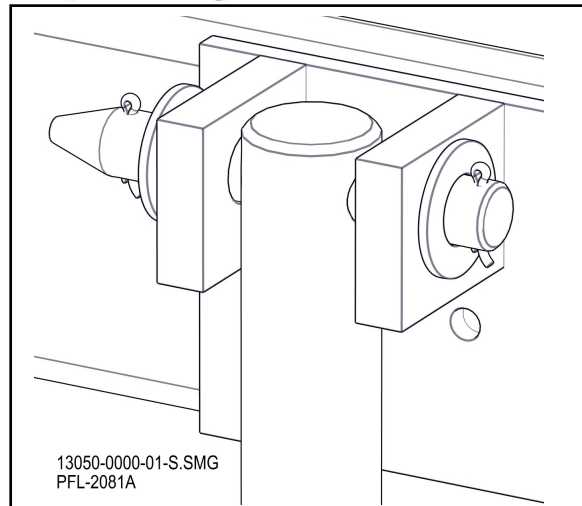

Figure 18
1. Mount top of cylinder to carriage clevis with 1" pin. See Figure 18.